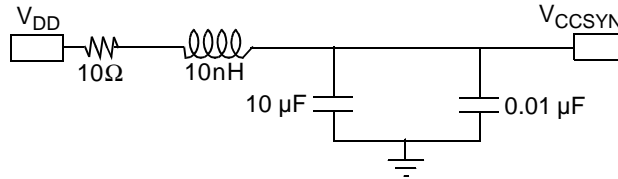

**Figure 33. Core Power Supply Decoupling**
**Figure 33** shows the recommended power decoupling circuit for the core power supply. The voltage regulator and the decoupling capacitors should supply the required device current without any drop in voltage on the device pins. The voltage on the package pins should not drop below the minimum specified voltage level even for a very short spikes. This can be achieved by using the following guidelines:
- Decouple the supply using low-ESR capacitors mounted as close as possible to the socket. **Figure 33** shows three capacitors in parallel to reduce the resistance. Three capacitors is a recommended minimum number. If possible, mount at least one of the capacitors directly below the MSC8112 device.